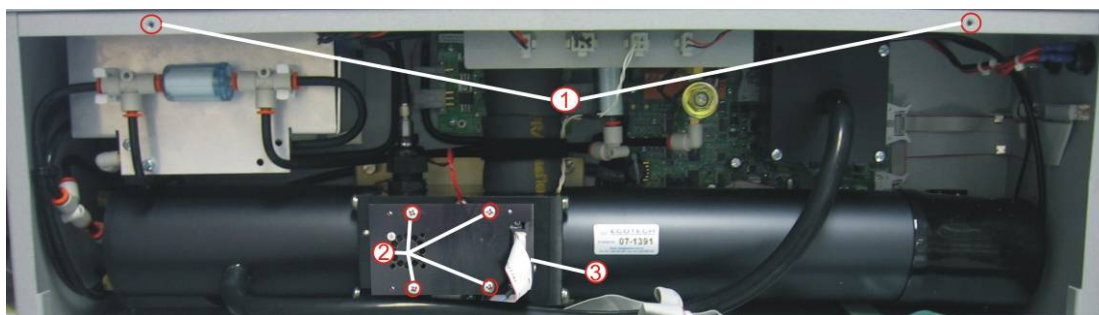

Figure 42 Aurora internal components
3. Remove black tubing from the exhaust fan (1) and the measurement cell (2) as shown in Figure 42
4. Now remove the main sample inlet by removing the insulating foam (3) beneath it will be the main inlet tube secured via a nut to the main cell, unscrew this nut
5. Unscrew the nut on top of the instrument (4)
6. Remove the sample heater from its connector (5) and gently pull the main inlet up out through the top of the instrument